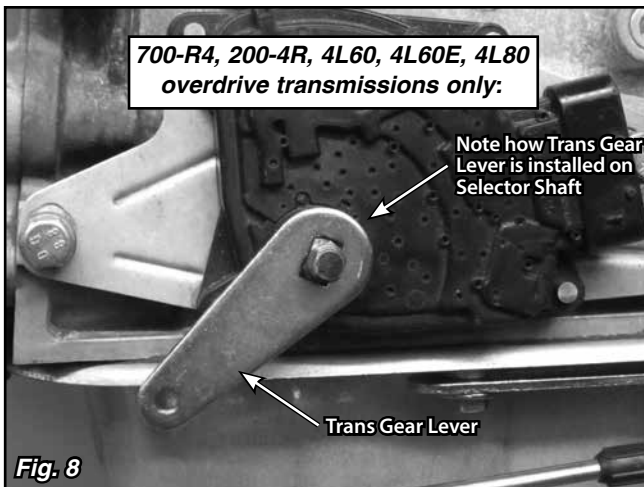

Fig. 8
Step 2, continued: GM TRANSMISSIONS: On a TH350 or TH400, install your existing Lokar trans gear lever pointed down and towards the front. On a 700-R4, 200-4R, 4L60, 4L60E and 4L80, install the new Lokar trans gear lever so the trans gear lever is in the furthest forward position. **Fig. 8** This is so that the cable will have full travel. The bolt hole in the trans gear lever on the 700-R4, 200-4R, and 4L60 transmissions is chamfered on one side. The chamfered side must face towards the transmission. This is required for clearance from the oil pan when the transmission is in low and second gears.